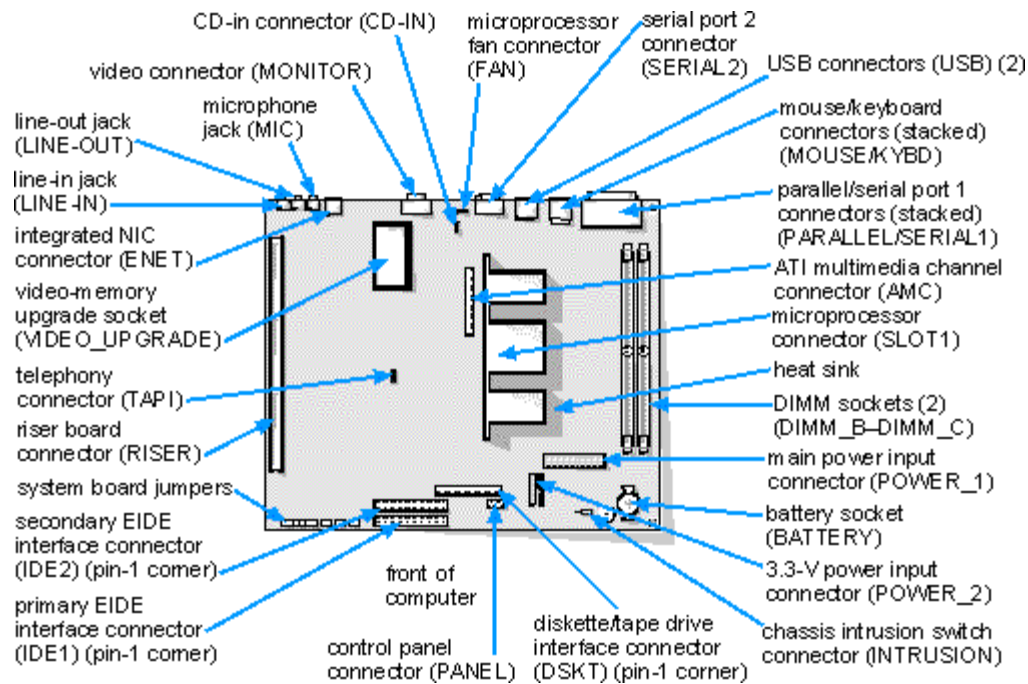
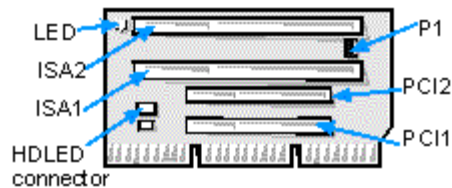

Figure 6-1. System Board Features
Figure 6-3. Riser-Board Expansion-Card Connectors
Use Figure 6-1 to locate the system board features.
Expansion cards are installed on the computer's riser board (see Figure 6-3). The riser board plugs into the RISER connector on the system board (see Figure 6-1) and is considered an extension of the system board.
Four expansion-card connectors reside on the riser board (see Figure 6-3). Because two of the expansion-card connectors share an expansion-slot space, a maximum of three expansion cards can be installed.
7. If you are installing an optional Wakeup On LAN network card, attach the three-wire power cable that came with the card to the P1 connector on the riser board (see Figure 6-3) and to the network interface controller (NIC) card.
2. Determine the DIMM sockets into which you will install DIMMs or replace existing DIMMs (see Figure 6-1).